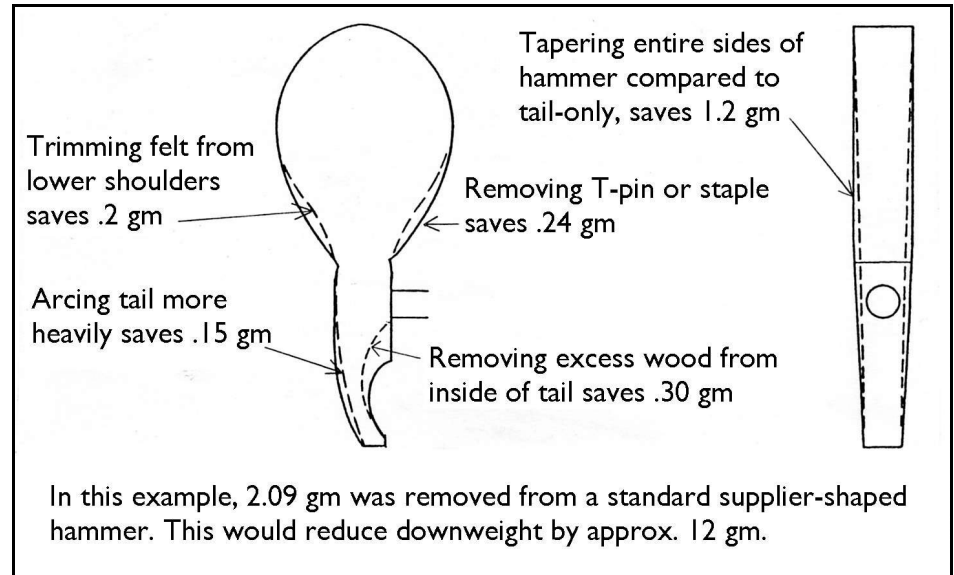
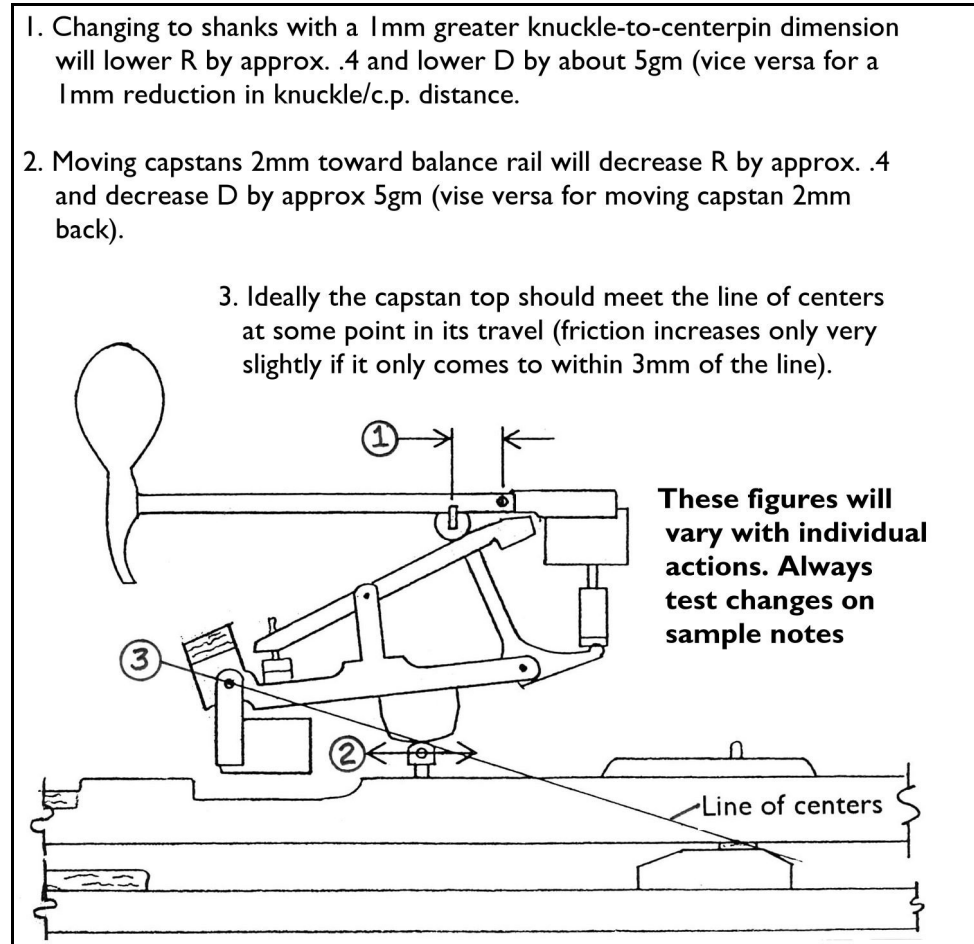

Figure 4: The Effect Of Various Shaping Operations On Touchweight
Figure 5: Two methods of changing action ratio
- The two easiest ways to change action ratio are changing hammer shank knuckle-to-centerpin distance and capstan position (see Figure 5). This makes choice of proper replacement shanks and wippens critical in rebuilding.
► **Action feels too heavy:** Measure action ratio (R), then measure downweight (D), upweight (U), and compute friction (F) for several keys.
3. If F is OK, the problem is usually due to over-weight replacement hammers and/or R too high. There are four possible solutions: (1) replace with more appropriate hammers; (2) remove weight from the existing hammers by tail shaping, tapering, removing excess wood from inside the tails, extra filing and removing the staples (see Fig. 4); (3) Modify action ratio by moving the capstans or knuckles (see Figure 5); (4) add key leads. Adding extra key leads is the wrong choice if there is average leading already in the keys, since this increases inertia and may actually cause an even heavier feeling action.
3. Regulate the sample keys, then measure R, D, U and find F. Correct F if out of limits and re-measure D and U. Note: To minimize capstan friction, the capstan/wippen contact point should cross the line of centers (Figure 5) at some point in the key travel. If it does not at least come within 2mm of the line, you may want to correct this by a different choice of wippen heel, knuckle diameter, hammer bore, or by changing the height of the action brackets on the key frame.